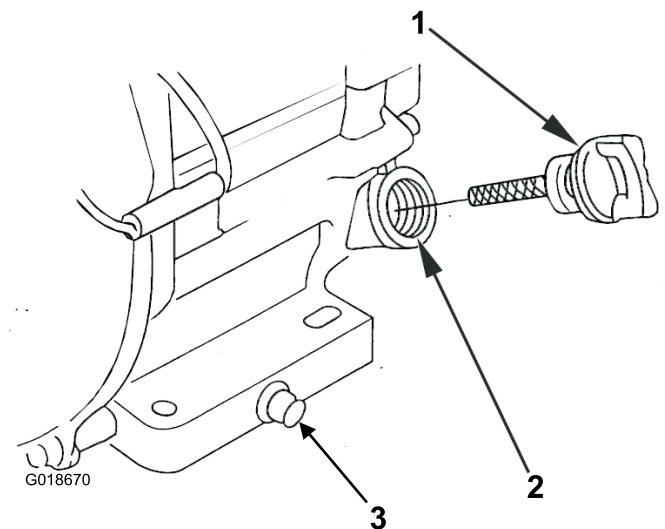

Figure 25
4. Remove the oil filler/dip stick and wipe it clean (Figure 25).